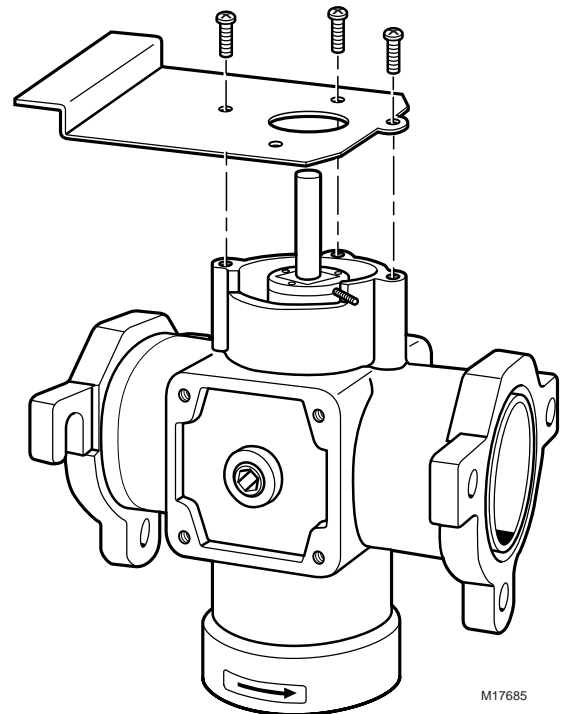

Fig. 16. Attaching the ML7999 Actuator mounting bracket to the V5197 Valve (valve in the open position).
1. Choose the actuator and bracket position best suited for your location and place the mounting bracket over the drive shaft of the V5197 valve. See Fig. 16.
NOTE: Use the 201391 shaft adapter (included with the valve) to mount the ML7999 Actuator to the V5197 Valve drive stem. Place the adapter as shown in Fig. 16 so that the valve drive shaft is between the adapter and the four setscrews.